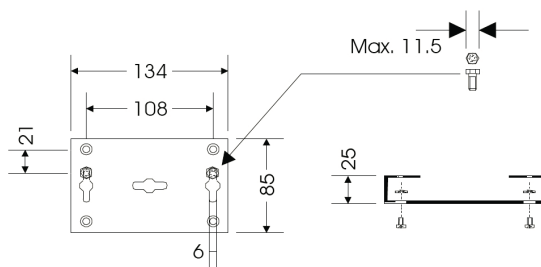

fig.13.1 - Standard bracket dimensions in mm
2. Mark and drill the holes (8 mm) for the wall plugs. Use the two holes with the slots running vertically (refer to Fig 13.1).